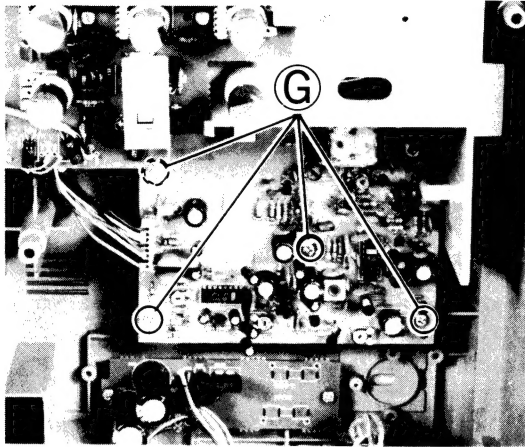
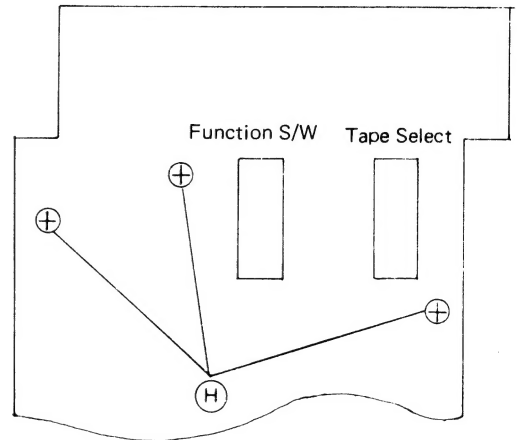

Fig. 8
Fig. 9
- (2) Remove screw ③ (see Fig.8) and ⑥ (six) as shown in Fig 4 & Fig. 9.